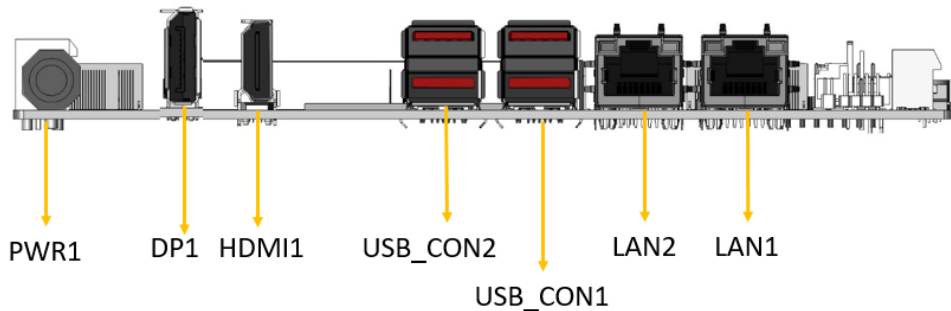

Figure 3-26: External Peripheral Interface Connector
Figure 3-26 shows the KINO-TGL-U external peripheral interface connector (EPIC) panel. The EPIC panel consists of the following:
- CN Location:** See Figure 3-26
CN Location:	See Figure 3-26
- CN Location:** See **Figure 3-26**
KINO-TGL-U SBC**3.3.5 USB 3.2 Gen 2 Connectors****CN Label:** USB_CON1, USB_CON2**CN Type:** USB 3.2 Gen 2 Type-A**CN Location:** See **Figure 3-26****CN Pinouts:** See **Table 3-27**